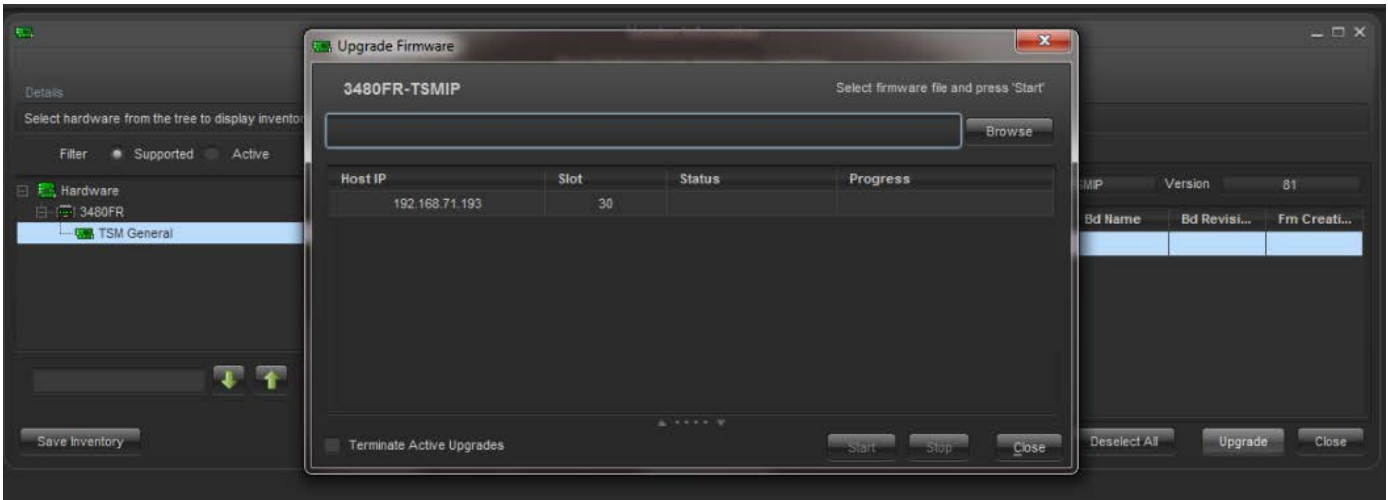

Figure 5-5 : VistaLINK® PRO - Browsing Firmware window
- Click the **Browse** button to select the TSMIP-10GE image file. (Figure 5-5)